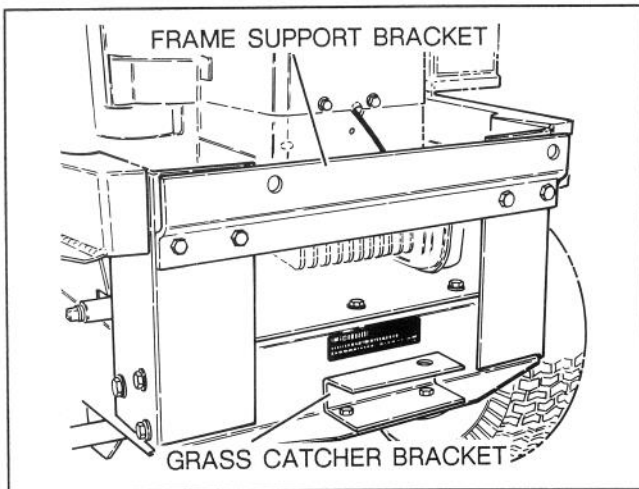

Figure 1
1. Secure frame support bracket to rear frame of rider with (4) 5/16-18x3/4" lg. capscrews and locknuts, as shown in fig.1.
1. Secure grass catcher bracket to rider hitch with (2) 5/16-18x3/4" lg. capscrews and locknuts as shown in fig.1.